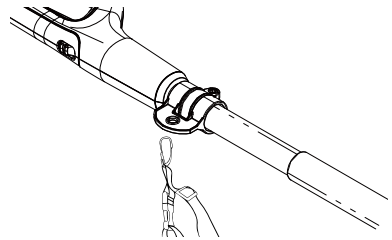

Fig. 17
2. Clip the shoulder strap onto the hole of the shoulder strap hook. (Fig. 17)